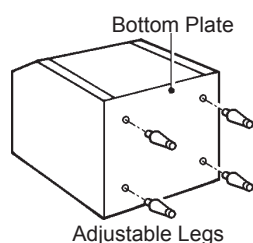

Fig. 3
1) Fully screw in the four legs provided (bin accessory) into the storage bin underside. See Fig. 3.